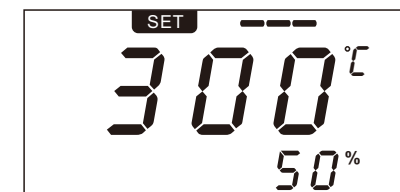

FIG. 1-5
2. Adjust temperature value (when temperature value is locked, it can not be adjusted): Press temperature "▲" or "▼" key, switch to SET status (see figure 1-5). Long press for quickly adjusting, stop pressing the key for 3 seconds, it will automatically save temperature setting, and state switch to REAL.